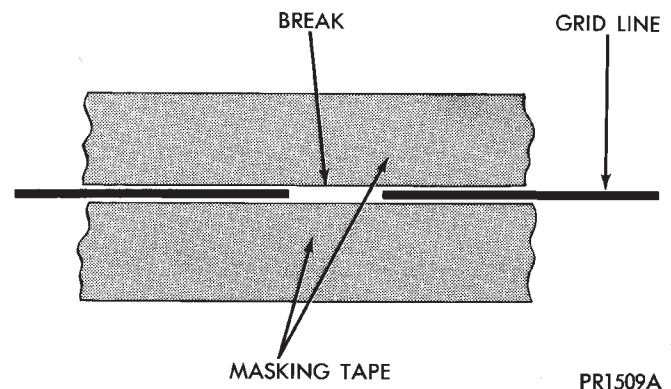

Fig. 2 Grid Line Repair (Typical)
(1) Mask repair area so that the conductive epoxy can be applied neatly. Extend epoxy application onto the grid line or the bus bar (Fig. 2) on either side of the break.
(2) Follow instructions in repair kit for preparing damaged area.
(3) Remove package separator clamp and mix two conductive epoxy components thoroughly within packaging. Fold package in half and cut center corner to dispense epoxy.
(4) For grid line, mask area to be repaired with masking tape or a template (Fig. 2).